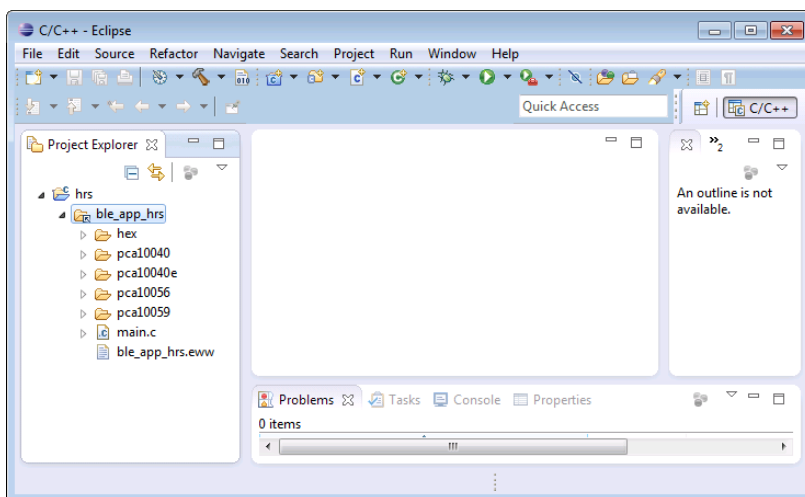

Figure 20: Project files and folders added in Project Explorer
- The header and source files should now appear within the project (Figure 20).